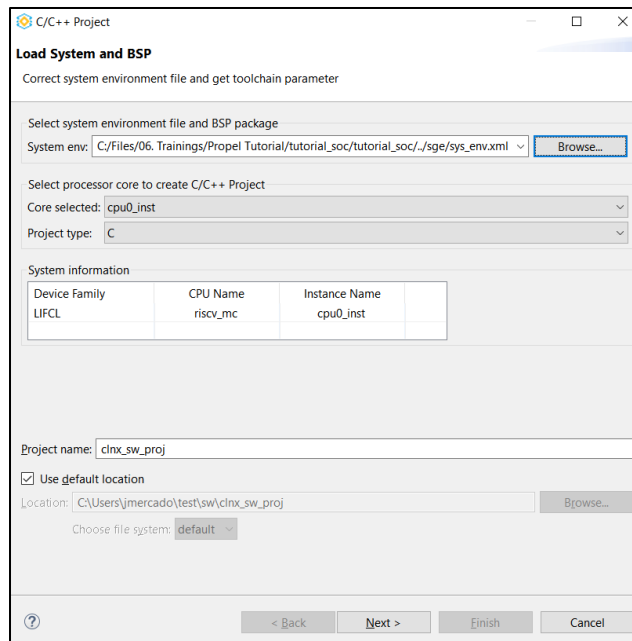

Figure 5.4. Initial C/C++ Project Creation Page
5. Select the language to use for the project in **Project type** (Figure 5.4).